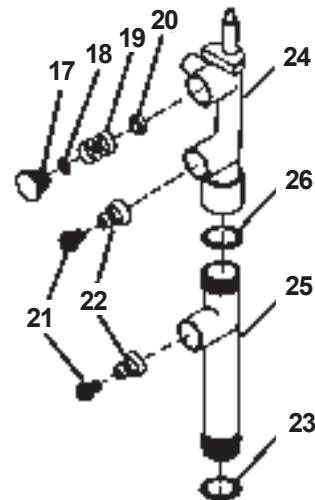

Figure 9. Pump Disassembly Step Three
(See Fig. 9)
- C. Place "O"-ring (26) onto mix transfer tube bottom (25) and lubricate. Place mix transfer tube bottom (25) into air transfer tube top (24). (See Fig. 9)
On hopper models: place mix transfer tube "O"-ring (23) onto bottom of mix transfer tube (25) and lubricate lightly. Position small end of two air/mix outletsprings (22) onto two air/mix outlet valves (21) and insert into mix transfer tube. Place valve retainer "O"-ring (18) onto valve retainer (17). Insert safety valve (20), spring (19) and valve retainer (17) into top hole of mix transfer tube. (See Fig. 9)